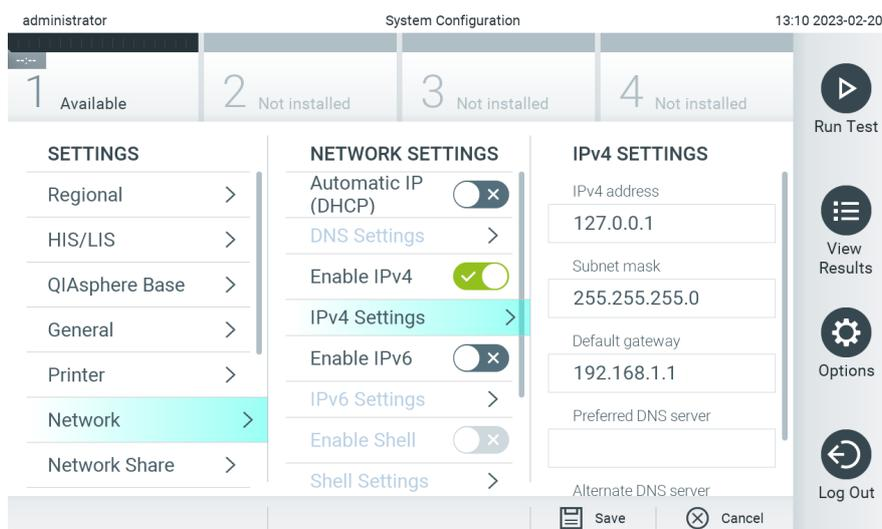

Figure 67. Configuring the network settings.
2. Select **Network** from the settings list in the left column (Figure 67).